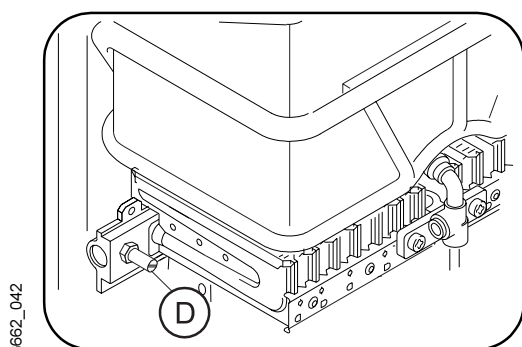

Fig. 5
2. Loosen sealing screw D (fig. 5) and connect U tube manometer.
- b) Loosen sealing screw D in the burner pressure tap-off point (fig. 5) and connect the manometer;